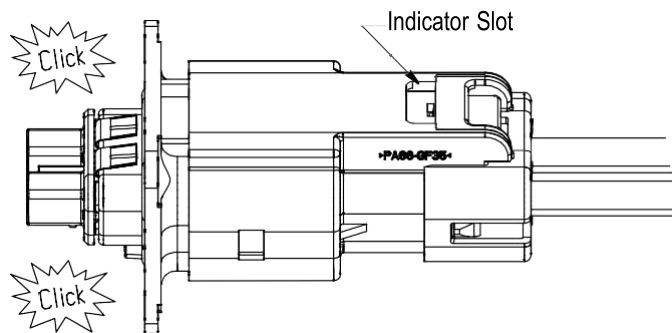

Figure 17
2. Push the plug connector and header assembly together fully until they stop (two clicks will be heard). Verify that the plug connector and header assembly are fully locked with a light tug and by visually verifying the location of the indicator slot on the floating latch as shown in Figure 17.